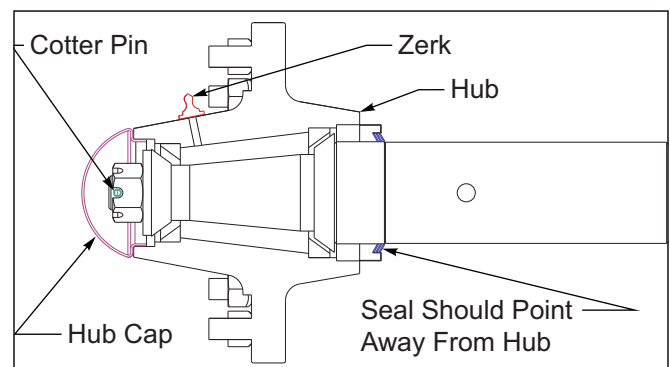

Figure 5-2: Triple Lip-Seal
*The triple-lip seals should point away from the hub to keep contaminants out and allow grease to pass *See Figure 5-2.**
11. Install a new cotter pin and replace the hub cap. *See Figure 5-2.*